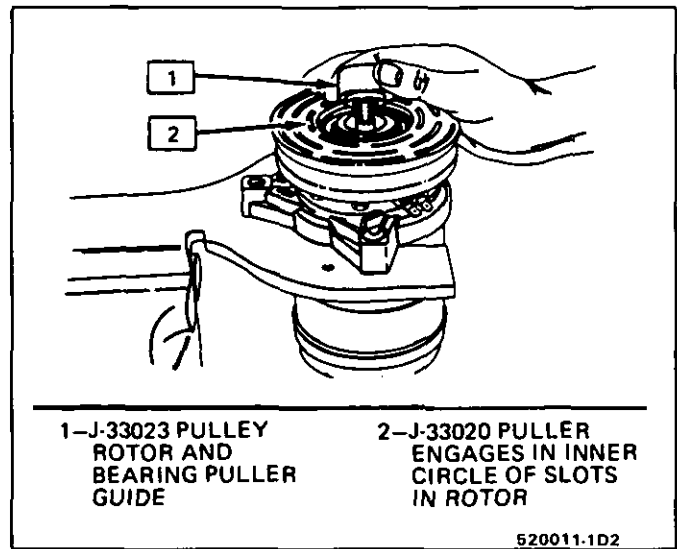
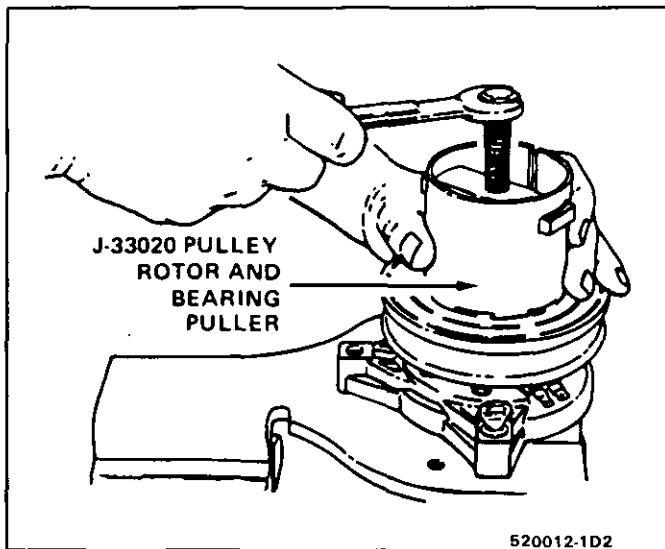

Fig. 11 Installing Pulley Rotor/Bearing Puller Guide
Fig. 12 Removing Pulley Rotor and Bearing Assembly
3. Install pulley rotor and bearing puller guide J-33023 to the front head (Fig. 11) and install J-33020 pulley rotor and bearing puller down into the inner circle of slots in the rotor. Turn the J-33020 puller clockwise in the slots to engage the puller tangs with the segments between the slots in the rotor (Fig. 12).
Remove the forcing screw from J-33020 puller and, with the puller tangs still engaged in the rotor slots, invert the assembly onto a solid flat surface or blocks as shown in Fig. 12.
6. Drive the bearing out of the rotor hub with rotor bearing remover J-9398 and J-8092 universal handle (Fig. 12).